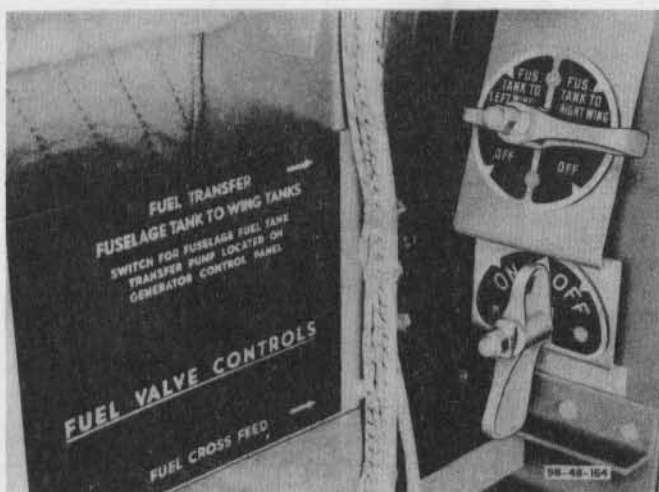

Figure 21—Fuel Transfer and Cross-feed Controls
(1) Switch "ON" the generator-disconnect and inverter switches, located on the generator control panel.
(2) Make certain that the fuel cross-feed valve and fuselage tank transfer valve are "OFF" (see figure 21), and the emergency fuel shut-off valves are "ON." These controls are located at the rear of the compartment. (Alternate controls for the fuel shut-off valves are located to the left of the pilot's seat.)
(3) See that deflector plate aft of upper turret is securely latched.
(4) Check emergency brake air pressure (550-600 lbs./sq. in.).
(5) Check hydraulic and brake accumulator pressures for a minimum of 400 lbs./sq. in.